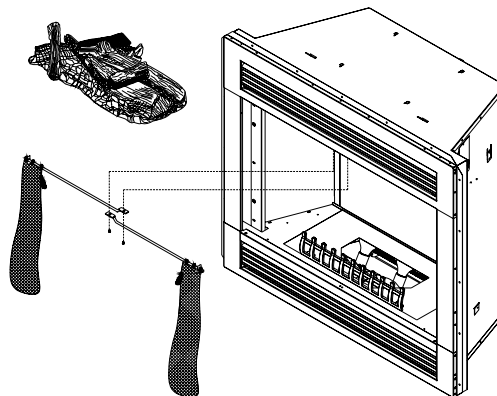

Figure 16 - Removing Screens/Rod Assemblies
2. Remove each retaining screw holding the screen rods and pull entire screen and rod assembly out from the locating hole on the inside top of each screen pocket (see **Figure 16**).